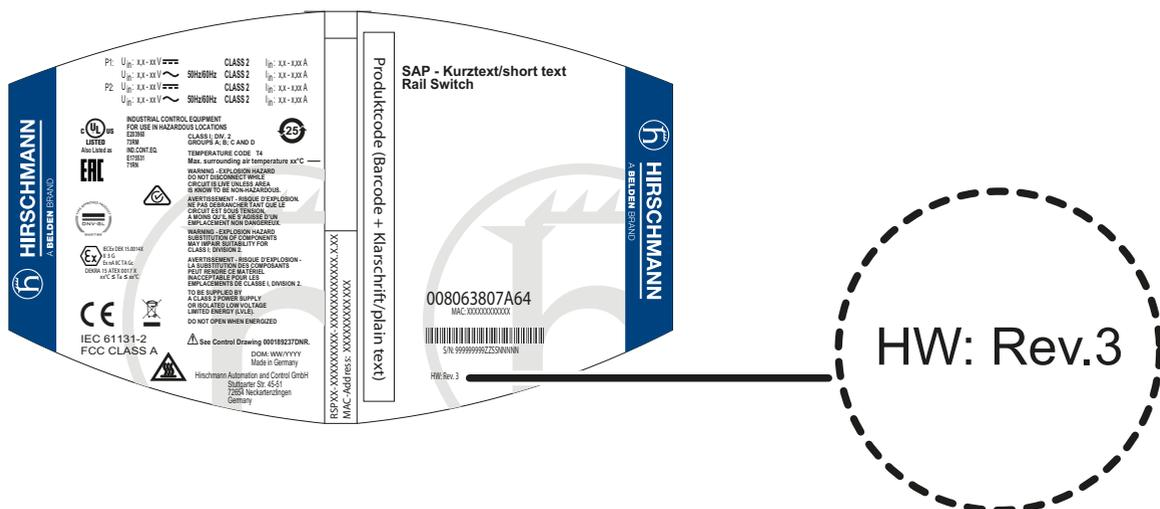

Figure 8: Revision marking on the side label
**Note:** RSP device variants with the software level characteristic value 2S marked as “HW: Rev.3” only support software version 8.6. and higher. The device variants provide you with a larger range of functions. Refer to the side label on your device (see figure 8) for the revision marking.